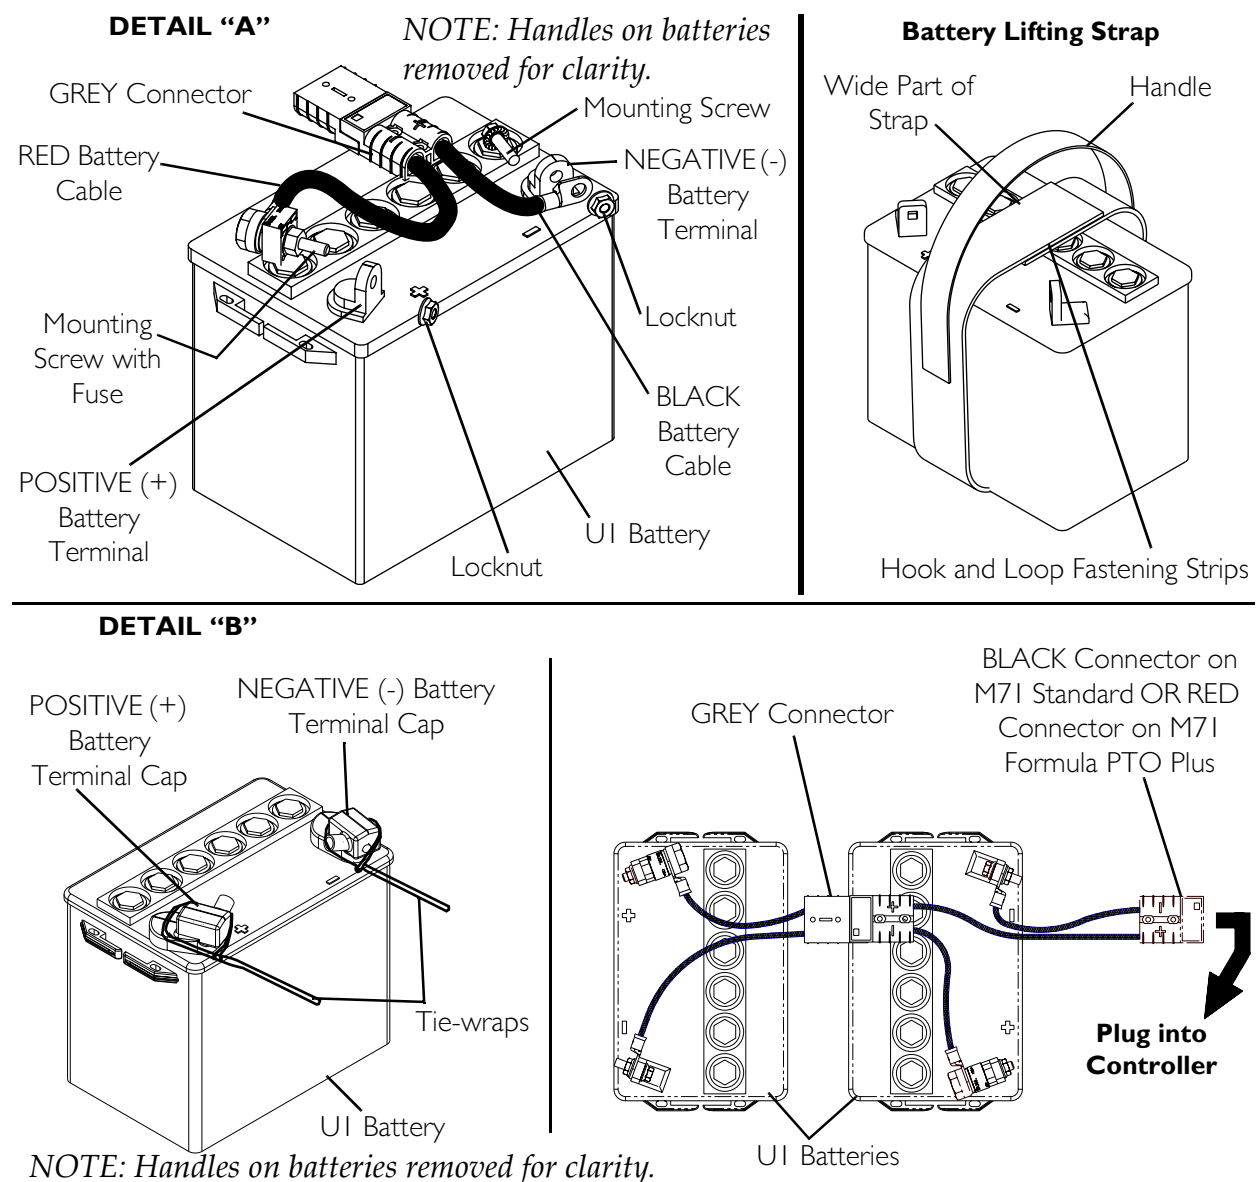

FIGURE 15.3 Connecting/Disconnecting Battery Cables
Battery terminal configuration as shown in FIGURE 15.3, DETAIL “A”, **MUST** be used. Batteries that have the terminal configuration reversed **MUST NOT** be used - otherwise serious injury or damage may occur.
When connecting the battery cables to the batteries, the battery cables **MUST be connected to the battery terminals as shown in FIGURE 15.3, DETAIL “B”, (depending on battery type), otherwise damage to the battery cable may result when installing battery terminal caps.**
- B. Place the wide part of the lifting strap around the middle of the battery with the hook and loop strips on top, as shown in FIGURE 15.3.
2. Secure the battery cables to the battery terminals as described below. Securely tighten. Refer to Detail “A” of FIGURE 15.3:
4. Slide terminal cap(s) down battery cables and onto battery clamps (Detail “B” of FIGURE 15.3).
5. Secure each terminal cap in place with a tie-wrap [use tie-wraps 11-1/2-inches long] (DETAIL “B” in FIGURE 15.3).
6. Cut the tie-wrap that secures the battery terminal cap in place. See Detail “B” in FIGURE 15.3.
8. Disconnect POSITIVE (+) RED battery cable from the POSITIVE (+) battery terminal (FIGURE 15.3).
9. Disconnect NEGATIVE (-) BLACK battery cable from NEGATIVE (-) battery terminal (FIGURE 15.3).